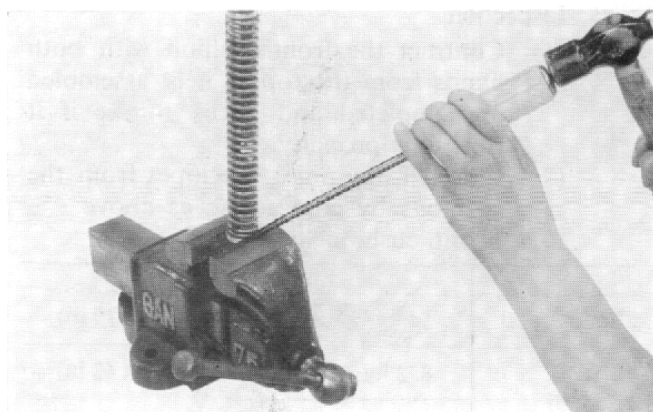

Fig. 65
- (4) Fix the cushion upper holder with a vise as shown in Fig. 65 and hit the end of the cushion spring with a steel hammer through a driver in order to remove the spring from the upper holder. Excessive care should be taken not to damage the upper holder because it is made of aluminum alloy.